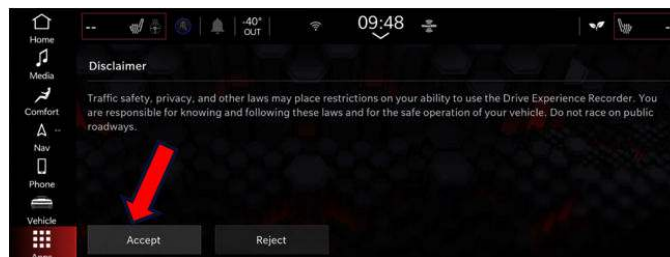

Fig. 3
8. If the disclaimer pops up, accept it Fig. 3.